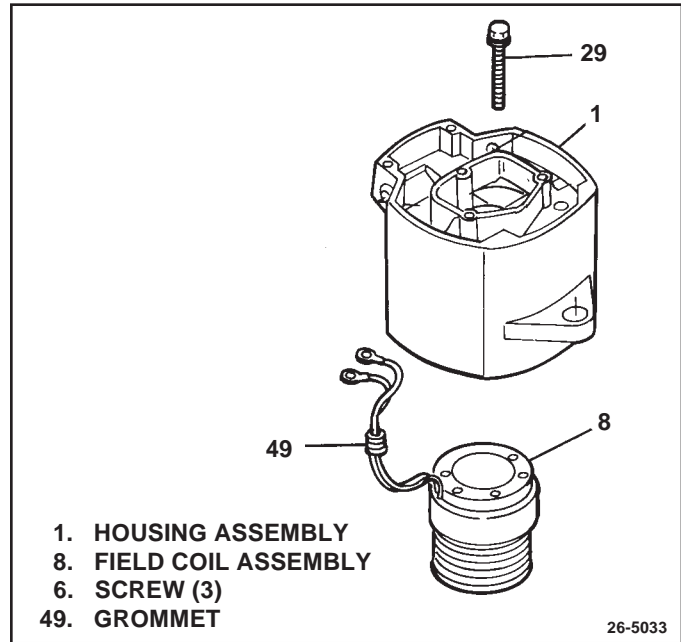

Figure 37. Installing Field Coil
13. Lubricate grommet (49) on field coil leads lightly with petroleum jelly. Turn grommet and leads so that leads will be properly positioned after installation. (See Fig. 37) Place field coil and support (8) into rectifier housing (1), guiding leads through hole into electronics compartment and aligning mounting holes in support with screw holes in rectifier housing. Push grommet into hole in housing until fully seated. Install 3 field coil and support attachment screws (29).